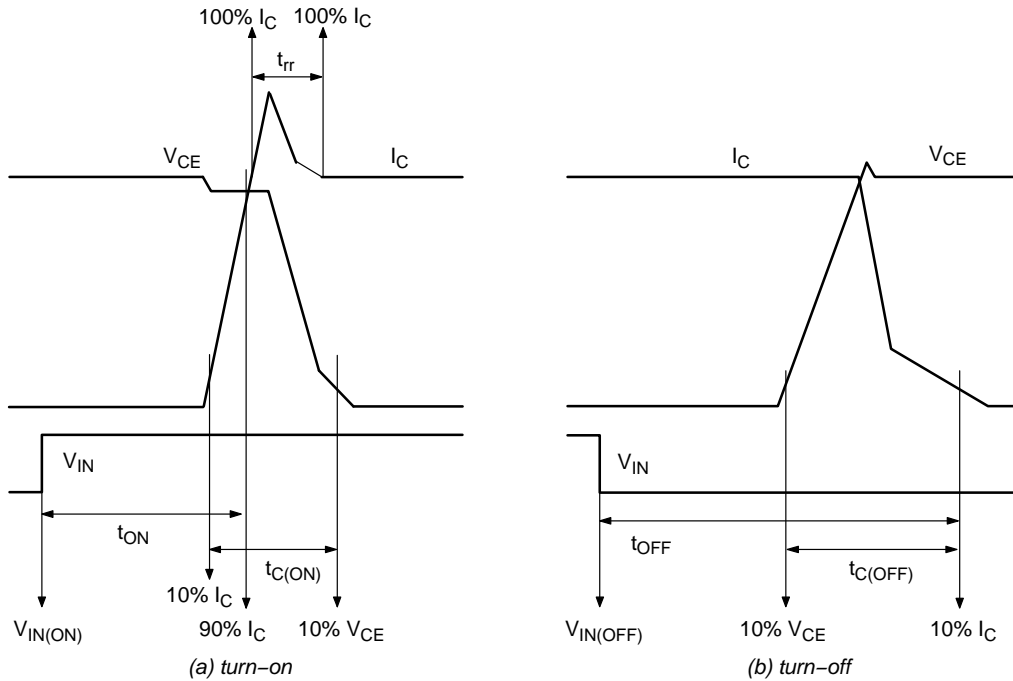

Figure 3. Switching Time Definition
6. t_{ON} and t_{OFF} include the propagation delay time of the internal drive IC. $t_{C(ON)}$ and $t_{C(OFF)}$ are the switching times of IGBT under the given gate-driving condition internally. For the detailed information, please see Figure 3.